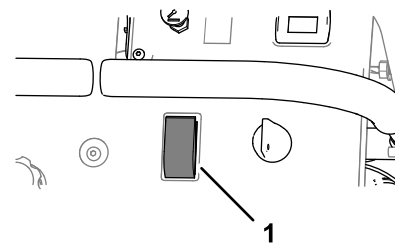

Figure 39
5. Press the sprayer-pump switch to the ON position (Figure 39).